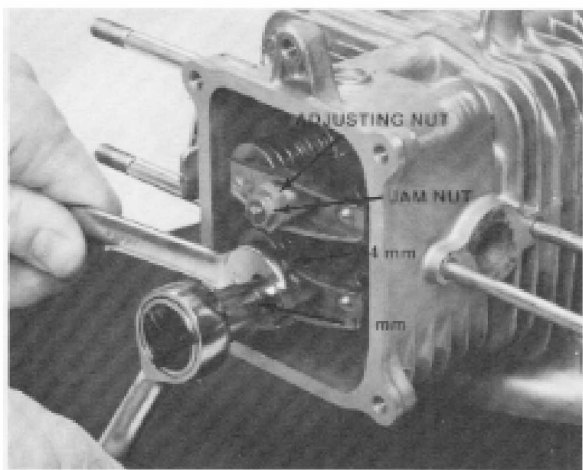

Figure 4-11
2. If the head assembly is to be completely torn down, remove each valve rocker arm. This step is not essential to the removal of the cylinder head. Hold the adjusting nut with a 14 mm wrench and loosen the jam nut with a 10 mm wrench. See Fig. 4-11. Remove the nuts, rocker arms and push rods.